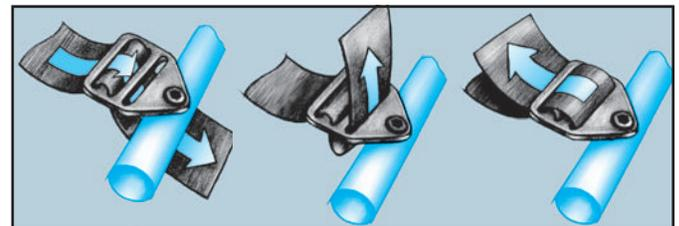

Fig. 4. Threading the tri-end fitting so that the webbing can be secured around the wheelchair frame.
5. Following diagram at right, thread tri-end fitting to the desired position and attach (figs. 4 and 5).